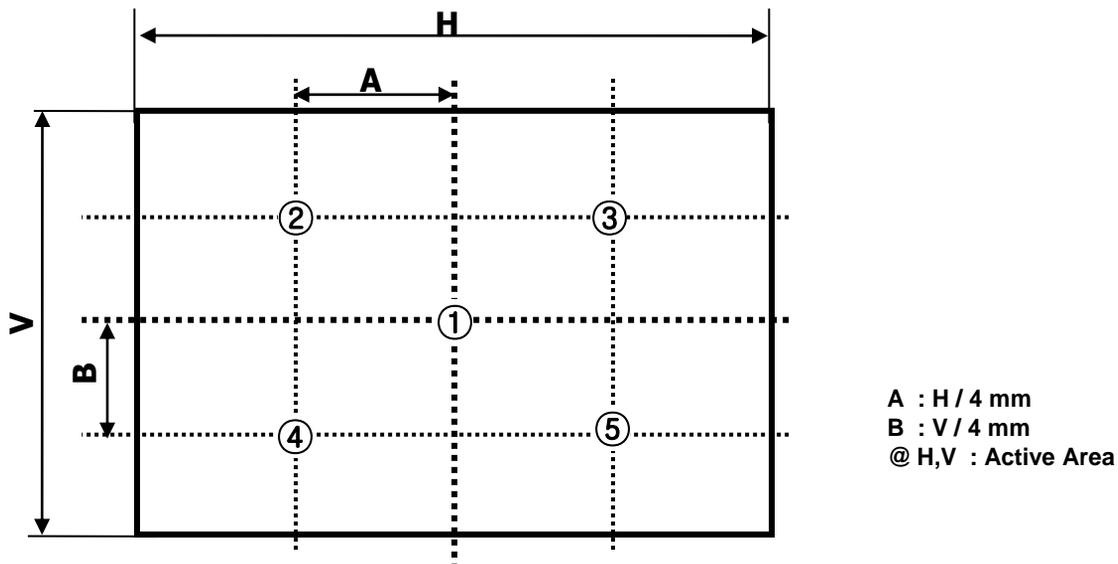

FIG. 2 5 Points for Luminance Measure
$$\text{CR(Contrast Ratio)} = \frac{\text{Center 1 Point at } n=1(\text{See FIG 2.})}{\text{Surface Luminance at position } n=1 \text{ with all white pixels}}$$
$n = 1$ is the Position of CR Measurement. For more information, see FIG 2.
2. Surface luminance are determined after the unit has been 'ON' and 1 Hour after lighting the backlight in a dark environment at $25 \pm 2^\circ\text{C}$. Surface luminance is the luminance value at center 1-point across the LCD surface 50cm from the surface with all pixels displaying white. For more information see the FIG. 2.